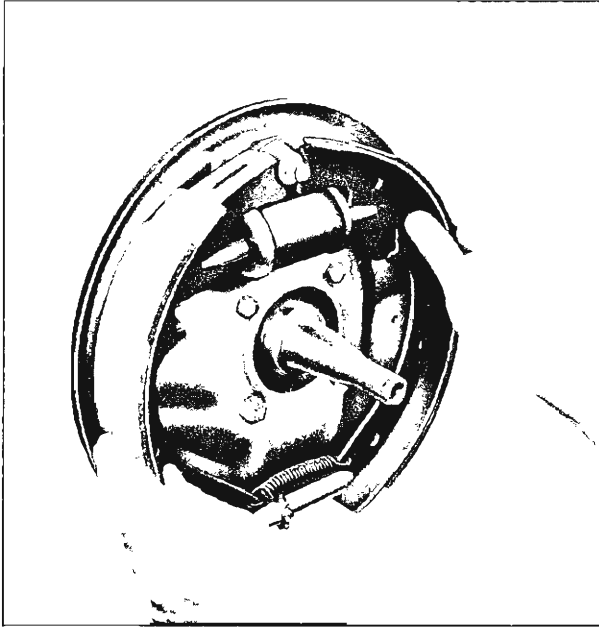

Fig. 7—Spreading Brake Shoes for Removal
9. Separate the brake shoes by removing adjusting screw and spring (fig. 7).